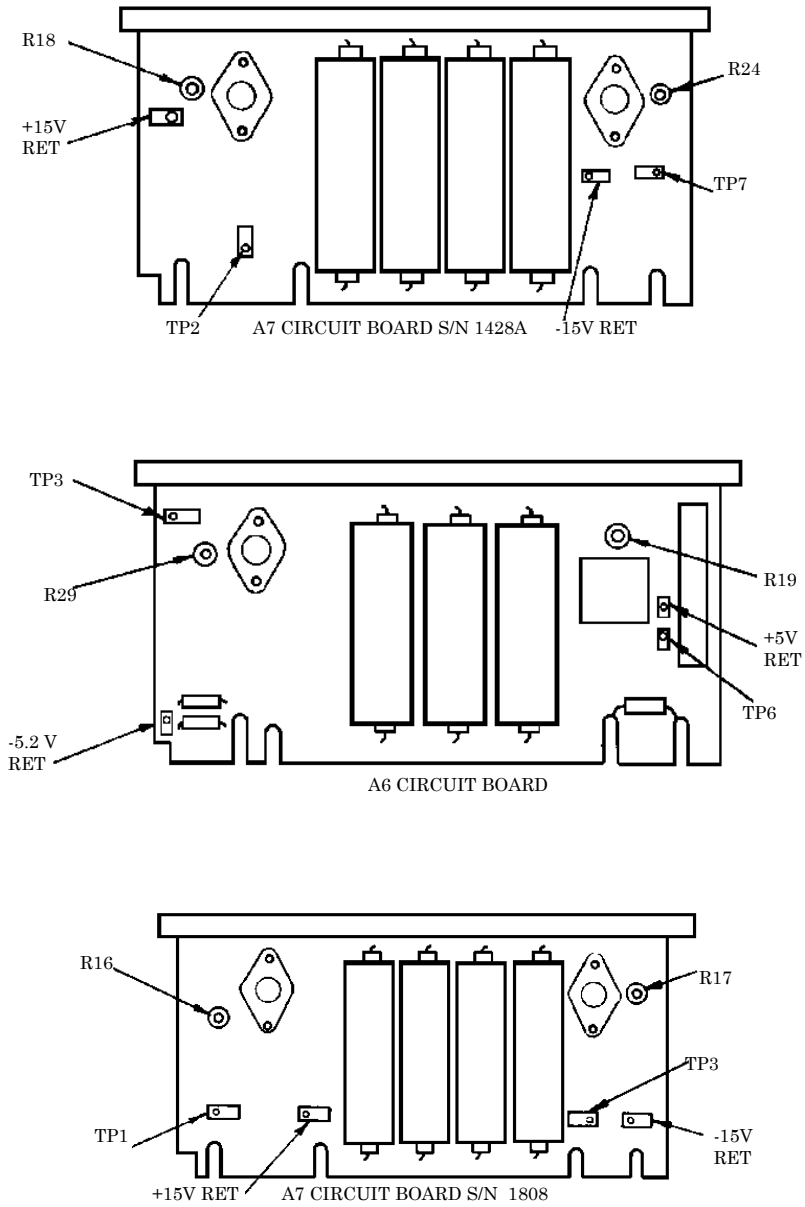

Figure 4. Power supply circuit boards.
- (2) Connect multimeter between A6TP6 and + 5 V RET (fig. 4). If multimeter does not indicate between 4.98 and 5.02 V dc, perform **b(1)** below.
- (3) Connect multimeter between A6TP3 and - 5.2 V RET (fig. 4). If multimeter does not indicate between -5.18 and -5.22 V, perform **b(2)** below.
- (5) Connect multimeter between A7TP1 (A7TP2; serial prefix 1428A and prior) and + 15 RET (fig. 4). If multimeter does not indicate between 14.98 and 15.02 V, perform **b(3)** below.
- (6) Connect multimeter between A7TP3 (A7TP7; serial prefix 1428A and prior) and -15 V RET (fig. 4). If multimeter does not indicate between -14.98 and -15.02 V, perform **b(4)** below.
- (1) Adjust R19 (fig. 4) for 5.00 V indication on multimeter (R).
- (2) Adjust R29 (fig. 4) for 5.20 V indication on multimeter (R).
- (3) Adjust R16 (fig. 54) (R18 (fig. 4); serial prefix 1428A and prior) for +15.00 V indication on multimeter (R).
- (4) Adjust R17 (fig. 4) (R24 (fig. 4); serial prefix 1428A and prior) for -15.00 V indication on multimeter (R).